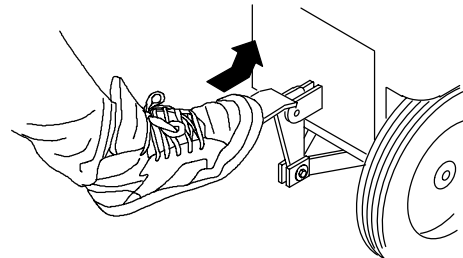

FIG. 8.
- Lower dispenser assembly to floor. Push pedal forward to release from transport position (*Figure 8.*).